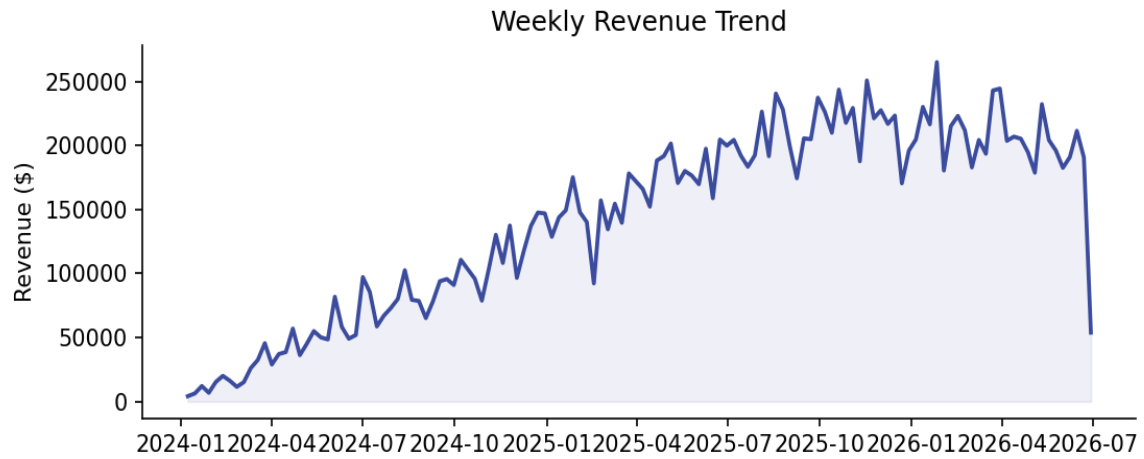

Figure 8 — Weekly revenue across the full transaction history used for training/evaluation.
- Figure 8 — Weekly revenue trend